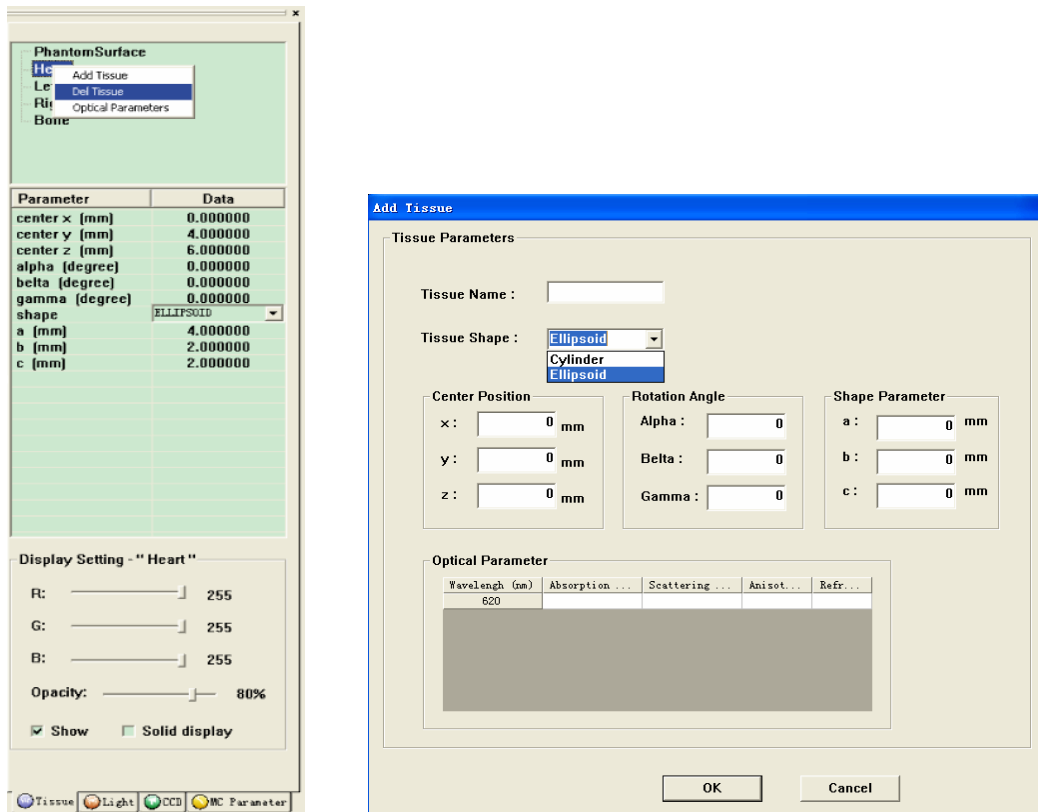
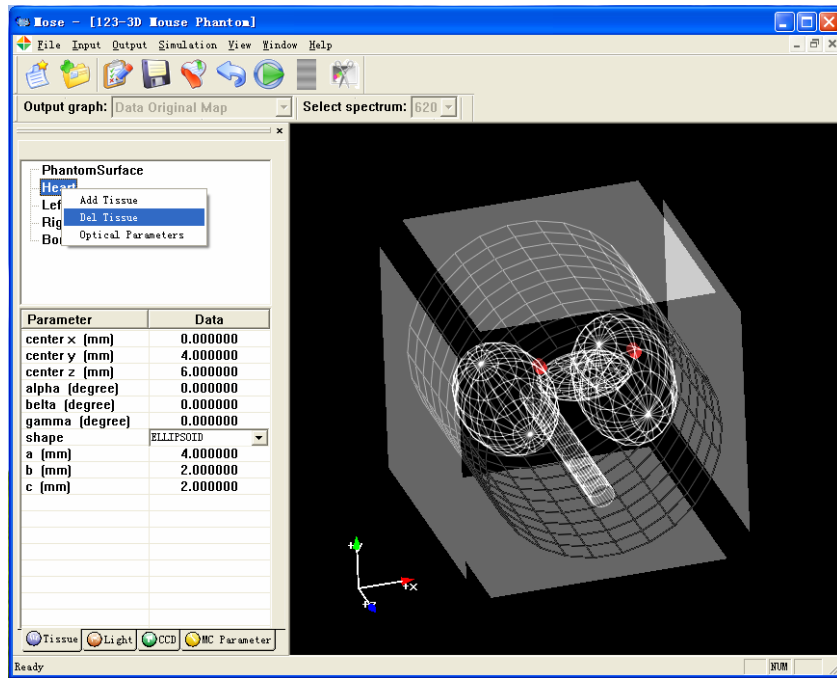
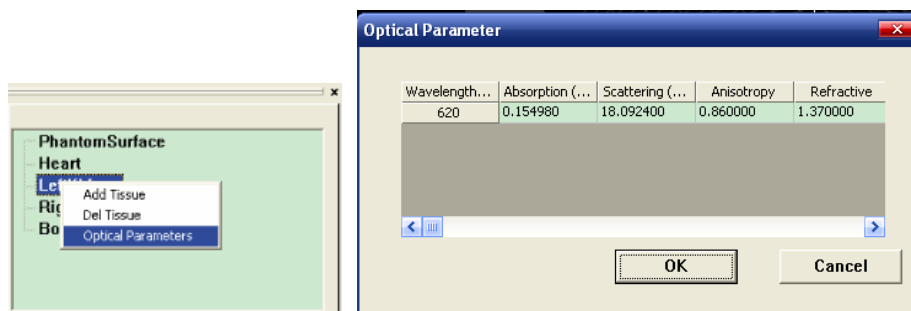

Figure 12-1. Add a tissue
Figure 12-2. Delete a tissue
Figure 12-3. Set the optical parameters of the light source
a. *Tissue* list: Tissue name is shown in the upper list, corresponding information including position and shape parameters which can be modified in the second list (in 3D mesh environment, the second list shows the path of the .ply/.off file). We can add tissue, delete tissue, or set the optical parameter by right clicking the tissue name (see Figure 12-1, Figure 12-2, Figure 12-3).